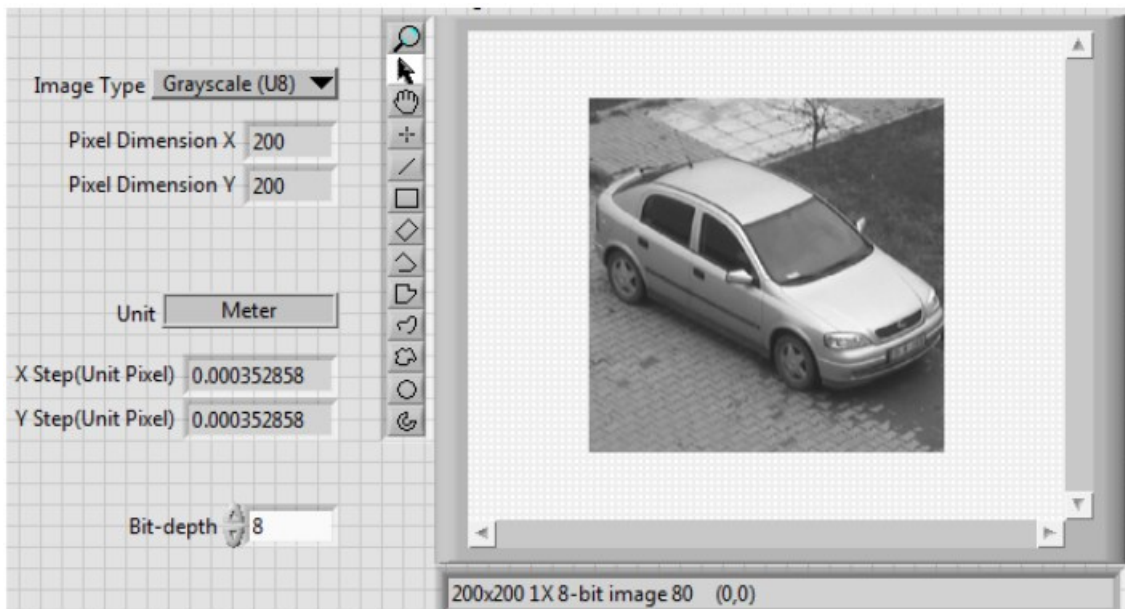

Figure 6: Front Panel of Exercise 2
1. Open **Exercise 1** and add a **Numeric Control** and name it as **Bit-depth**. Change the default value of Bit-depth to 8 as shown in Figure 6.